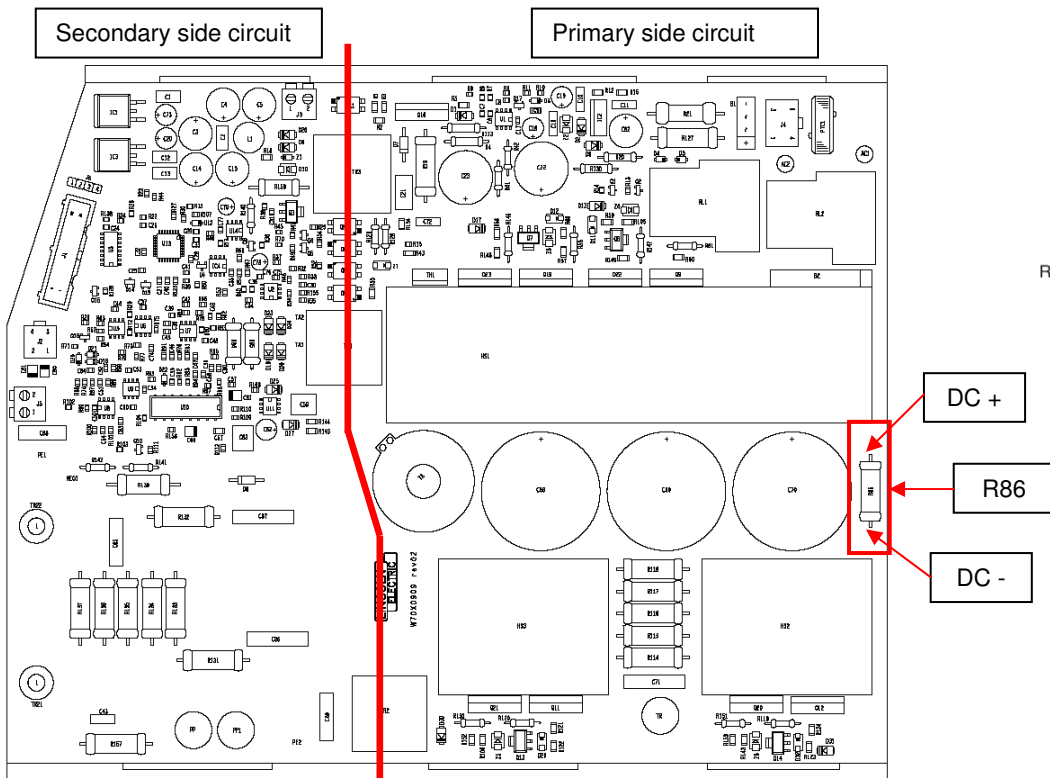

Figure 1 - Capacitors discharge location
4. Locate the resistor **R86** that is directly connected to the terminals **DC+** and **DC-** on the main board, **See Figure 1** and check the voltage across it, it should be zero; if not follow the next step.